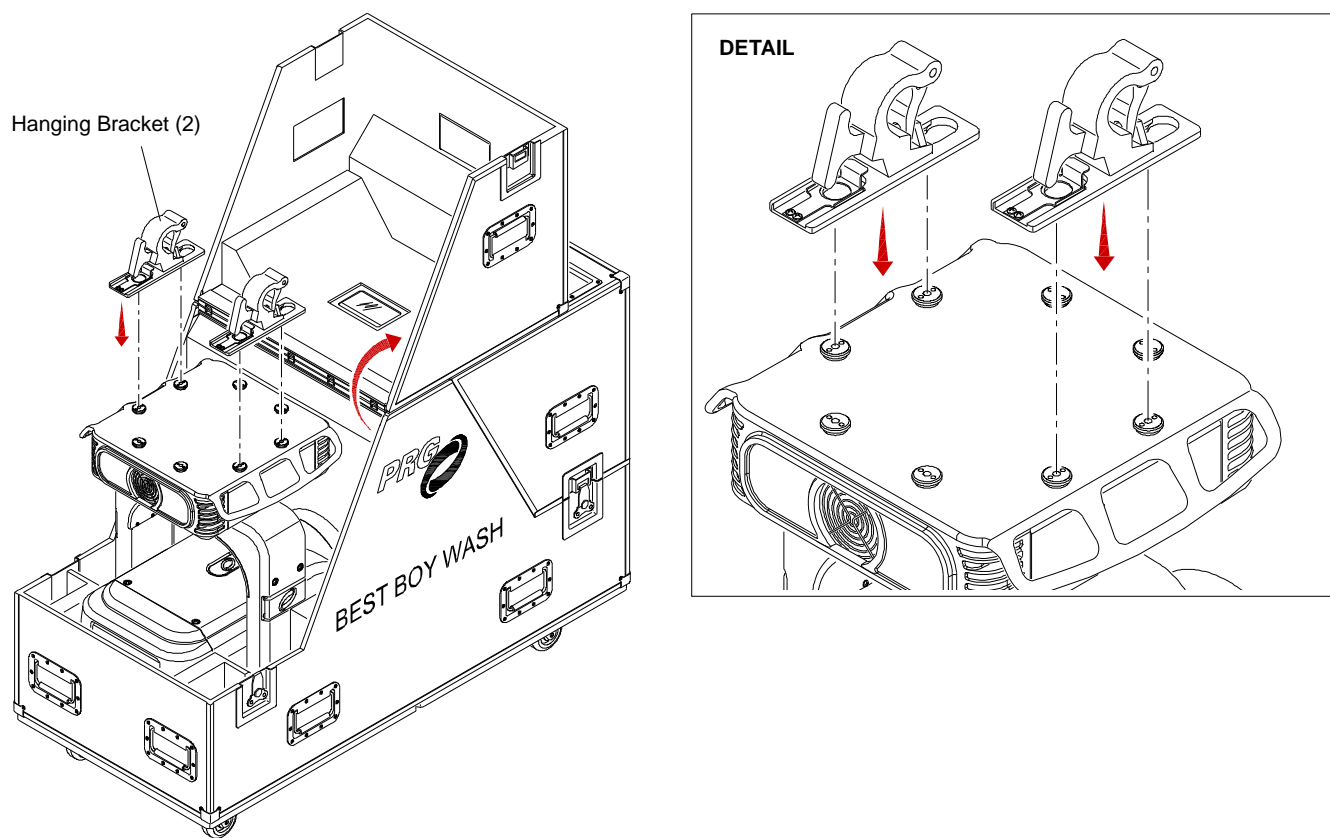

Figure 2-4: Attaching Hanging Brackets
- b. Orient Hanging Bracket in desired direction over two attachment buttons on bottom of upper enclosure (**Figure 2-4**).